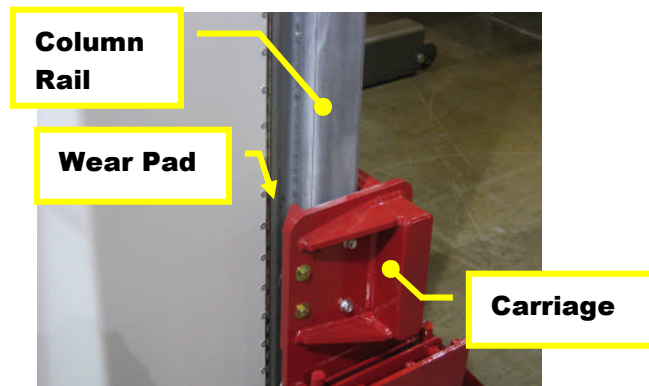

Figure 1
2. Spray three sides of each Column Rail with a thin even coat of PTFE from the recommended list. **See Figure 1.**